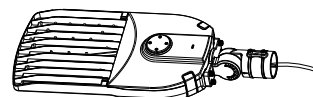

Figure 2
- Step 2: Attach the bracket to the fixture. (Figure 2)